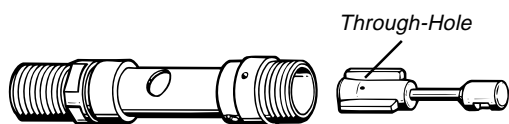

Fig. 12 - Valve Body / Poppet Alignment
8. Install the O-ring(20) into the groove of the valve body near the indexed (squared) portion of the inlet, being careful to avoid rolling the O-ring down over the threads.
9. Lay the LP seat(23) into the cavity on the plastic end of the poppet(24), checking first to ensure that the smooth side of the seat is facing out, and firmly press the seat into place.
10. Hold the valve body positioned with the inlet end facing to the left, and the large hole in the center of its tube facing directly up. Examine the plastic head of the poppet to locate the small through-hole between two of the three ribs. Insert the head of the poppet into the adjustment end of the valve body, so that the through-hole is aligned directly with the center of the large hole in the valve body (see Fig. 12). Slide the poppet completely into the valve body, being careful to maintain this alignment. If correction of the alignment is necessary, gently rotate the poppet with a small probe through the large hole of the valve body.
11. Stand the valve body vertical on its inlet end, with the head of the poppet facing down inside. Gently place the spring(25) down over the metal shaft of the poppet, so that it rests flush over the ribbed head inside the valve body.
12. Place the washer(26) down inside the valve body so that it rests flush over the spring.